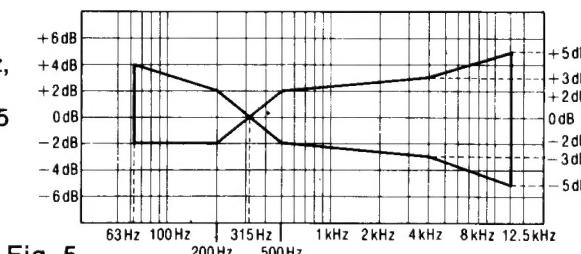

Fig. 5
- The serial number plate of the product is attached to the back chassis (shown in fig. 5).
3. Check that the frequency is within the range shown in Fig. 5 for both L-CH and R-CH.